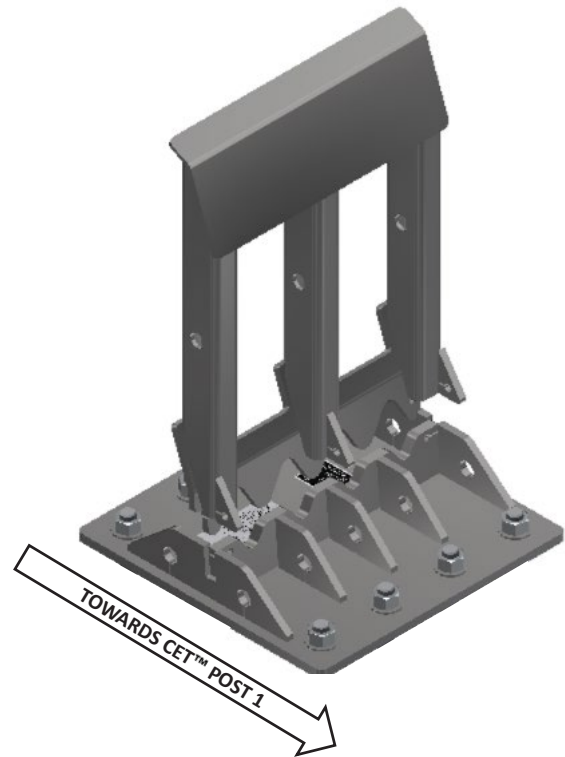

Figure 6B
2. Secure the CET™ Upper Anchor to the CET™ Lower Anchor with two (2) 1/4" x 2" Hex Bolts (PN: 119824G) and 1/4" Nut (PN: 006401G). Place a 5/16" Flat Washer (PN: 003240G) under the Bolt Head and the Nut. See Figure 6B and 6C. Hand tighten at this time.